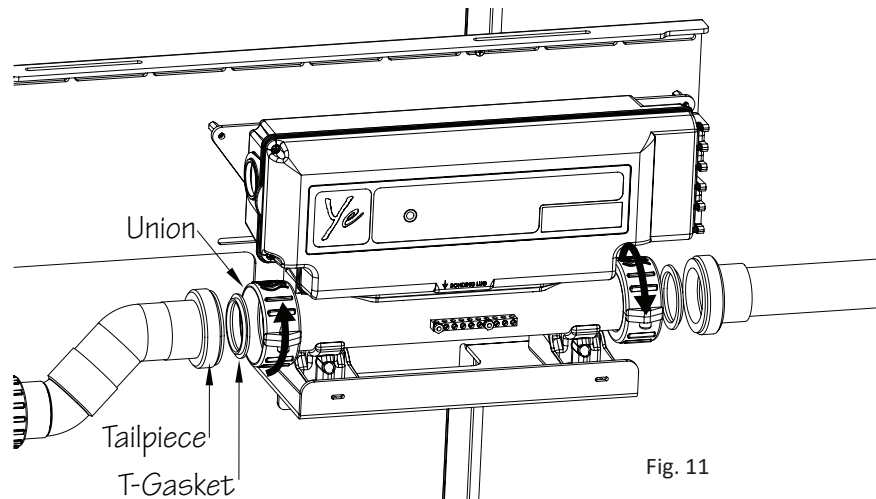

Fig. 11
11. Position the replacement controller on the Mounting Board and align the inlet and outlet unions with the plumbing. Make sure a T-Gasket is installed between the Union and the Tailpiece. The raised section of the T-Gasket must sit in the groove of the Tailpiece. Thread each Union onto the Tailpiece. Do not over tighten (Fig. 11).